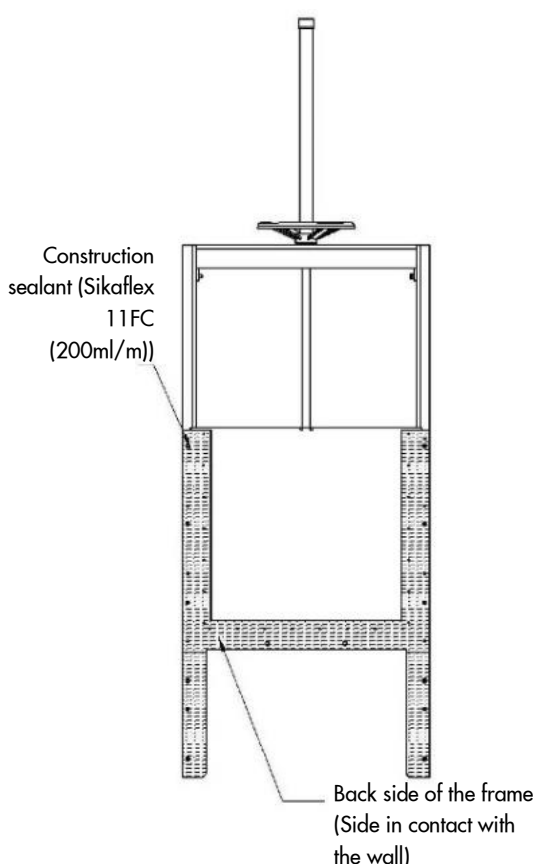

Figure 2
- Drill and install an anchor bolt on each side of the gate (see Figure 2). After installing the first anchor bolt, and prior to drilling the hole of the other side, make sure the frame is perfectly leveled